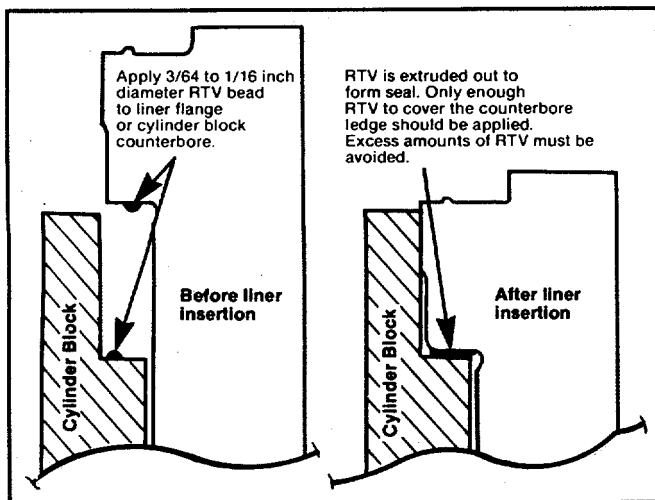

Fig. 14-8. Apply The Sealant To These Locations.
3. Apply a bead of Cummins Sealant, Part No. 3801048, onto the counterbore or the cylinder liner flange as shown in Fig. 14-8. The diameter of the bead must be at least 3/64 inch and not more than 1/16 inch. The liner must be installed within five minutes after the sealant has been applied.